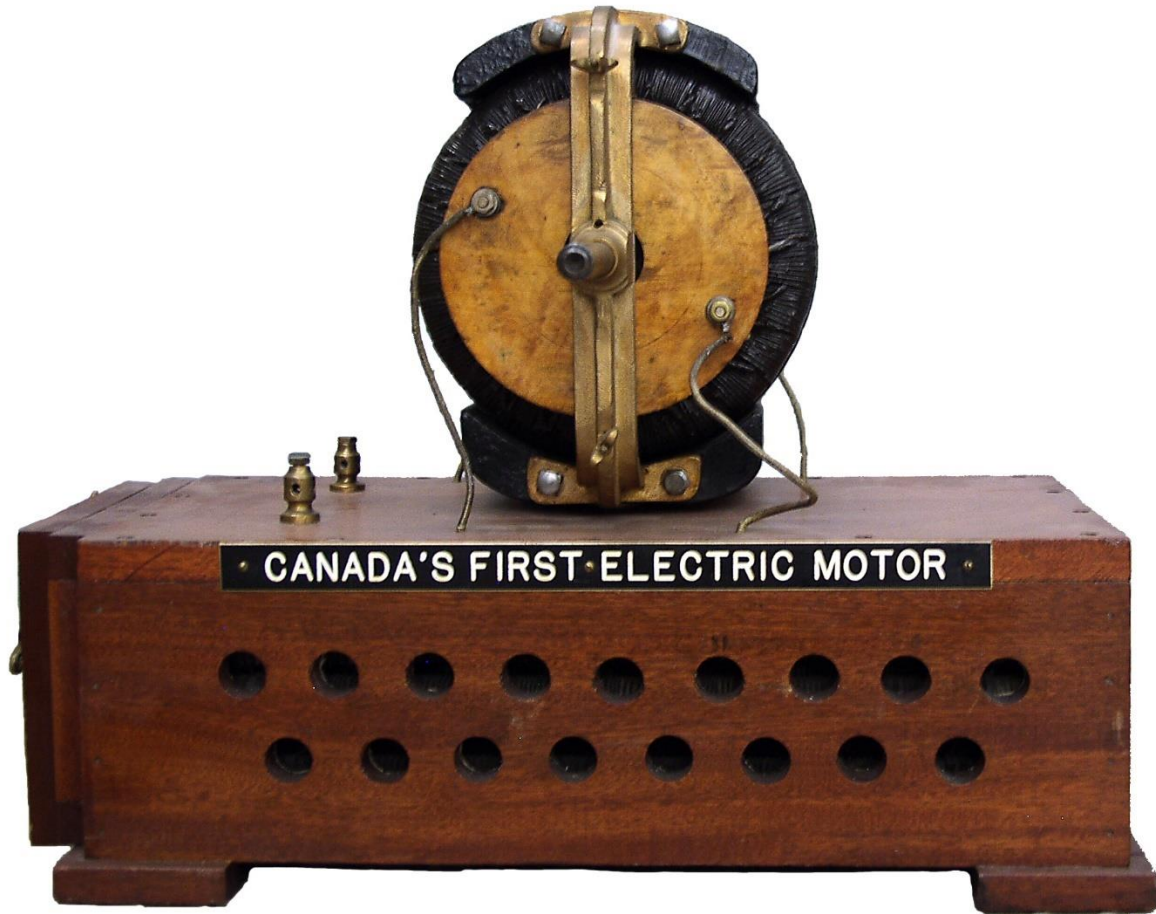

Figure 1 – Canada's first electric motor
- Link to figure 1 <https://www.flickr.com/photos/cstmweb/3323803394/in/photolist-64HmX5-gTr4Rq-2ZU3mW-6BxAua-aJwr5T-cn1pyG-ekRA7p-839vki-bCmzFz-Yp6Xks-iVkJg8-nvgfCC-boiid3-b2sn1c-qn3Zwh-ytLaZ-9o1zQd-4Chd11-6FFK3W-7RWaZ3-dihjN-8HY6tJ-VWBbDw-bq33VR-TtVY28-nCz3B9-81twGp-8mPGU-Sf5Lct-b9SXMk-9wJXN6-rbQdWr-dxFD4e-q7R13G-awteKs-rbsLHu-cjycRm-ThtVAv-4smovg-q3eDBf-abD6zs-juAGDb-pUx8Pi-aLTqkX-aoUsid-WXAxoJ-Y4LLYM-8Xm8Gc-aMVJia-feUegk> Author Canada Science and Technology Museum's photostream Licence <https://creativecommons.org/licenses/by-nc-nd/2.0/>